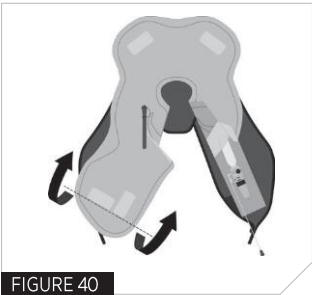

FIGURE 40
5. Fold bottom corner of the lobe (oral tube side) inflater up towards the centre of the bladder along fold line 5 (Fig 40).